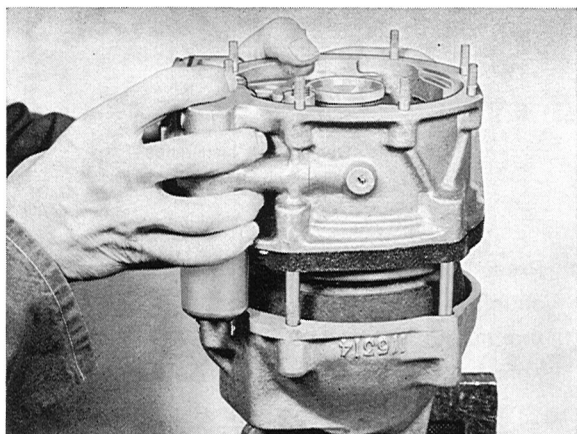

Fig. 4-56. Overdrive disassembly
3. Remove the nuts holding the brake ring, front and rear casing. Loosen the nuts gradually all round in order to avoid any distorted tension from the springs. Lift off the front casing and brake ring, see Fig. 4-56.